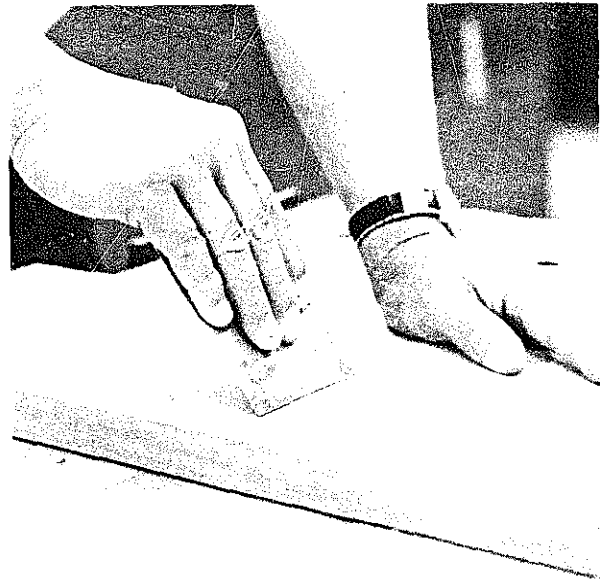

Fig. 13-3 Using the hand scraper blade with one hand.
1. The blade can be held with one hand (figure 13-3) or both hands. When both hands are used, place them on the blade as though holding a book to read.